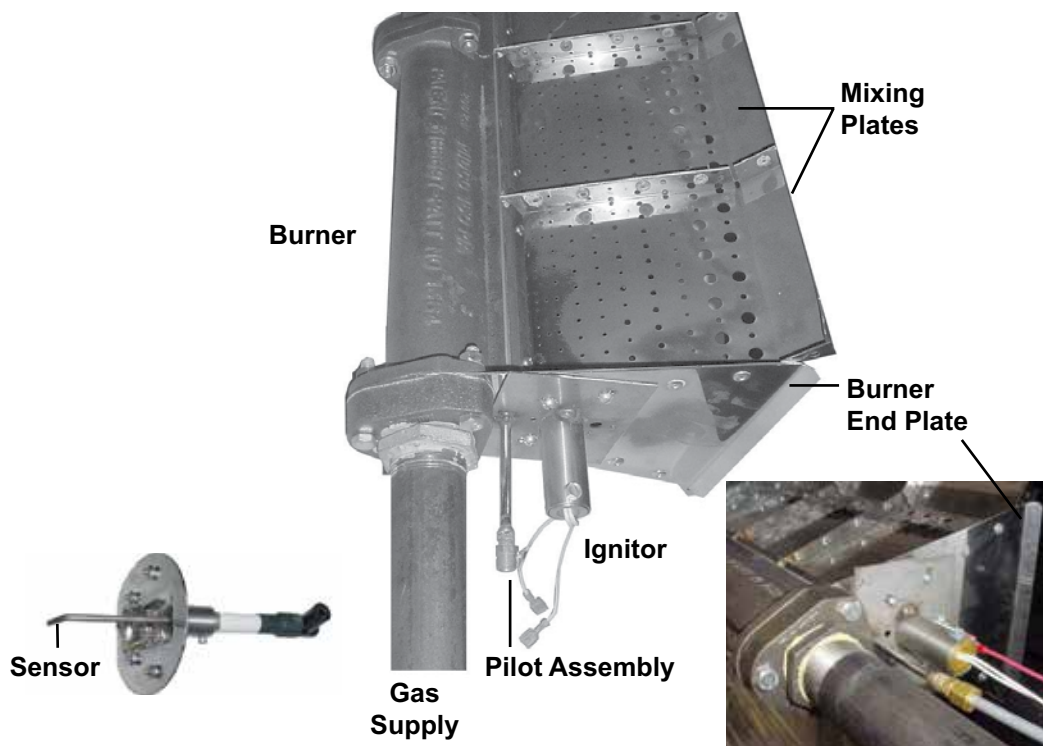

Figure 12. Burner Assembly—Units Manufactured After AUG 2003
- Burner components for units manufactured *after* AUG 2003 are listed in Table 21 and shown in Figure 12.